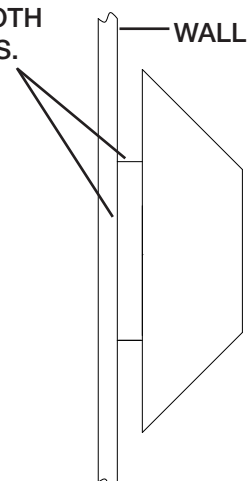

FIGURE 2
- 7) With silicone RTV caulk, caulk completely around the housing/wall joint on the top and both sides. Caulk should not be applied to the bottom joint (see figure 2).